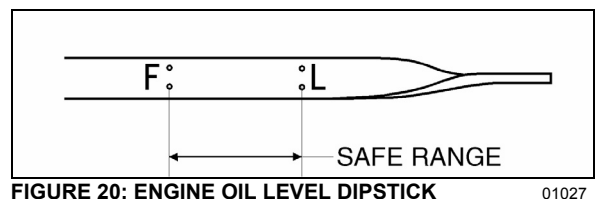

FIGURE 20: ENGINE OIL LEVEL DIPSTICK
Check the oil level daily with the engine stopped. If the engine has just been stopped and is warm, wait at least 10 minutes to allow the oil to drain back to the oil pan before checking. Wipe the dipstick clean then check oil level. The level should always be within the safe range on the dipstick (Fig. 20). Add the proper grade of oil to maintain the correct level on the dipstick. All diesel engines are designed to consume some oil, so a periodic addition of oil is normal.
8. Remove the engine-oil filler cap and pour oil in the engine until it reaches the "FULL" mark on the dipstick (Fig. 20).
10. Add oil as required to bring the level within the safe range on the dipstick (Fig. 20).